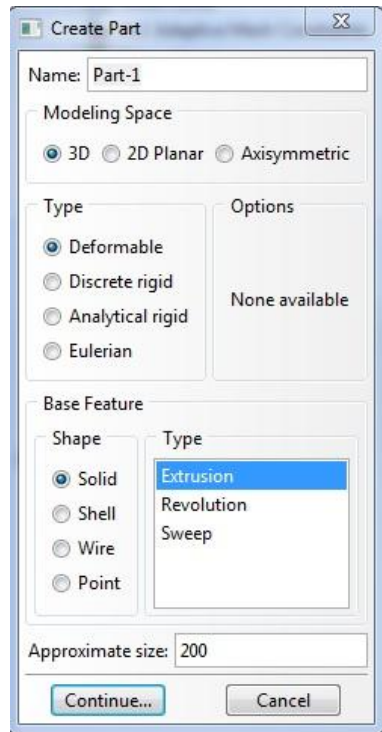
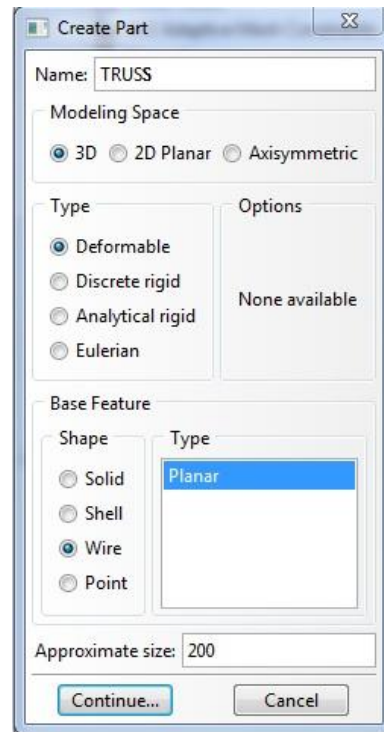

Figure 3a. Create Part Dialog Box
Figure 3b. Create Part Dialog Box (Truss)
- Using the left mouse button, double click **Parts** in the model tree and the **Create Part** (Figure 3a) dialog box appears. Enter a new name for the part (TRUSS), and under the Base Feature tab choose **Wire** for shape (as in wireframe) and **Planar** for type. The **Create Part** dialog box should look identical to Figure 3b.